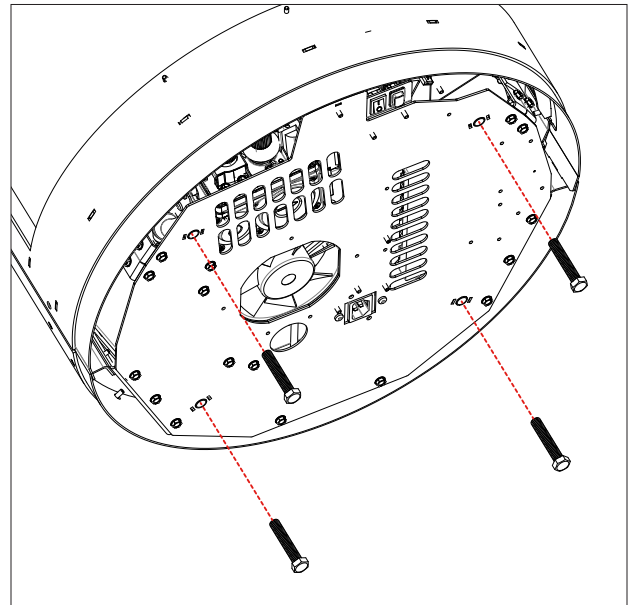

Figure 75: Pedestal bolt Removal
Remove the four (4) bolts from the bottom of the unit (see Figure 75). These bolts are used to install the pedestal.